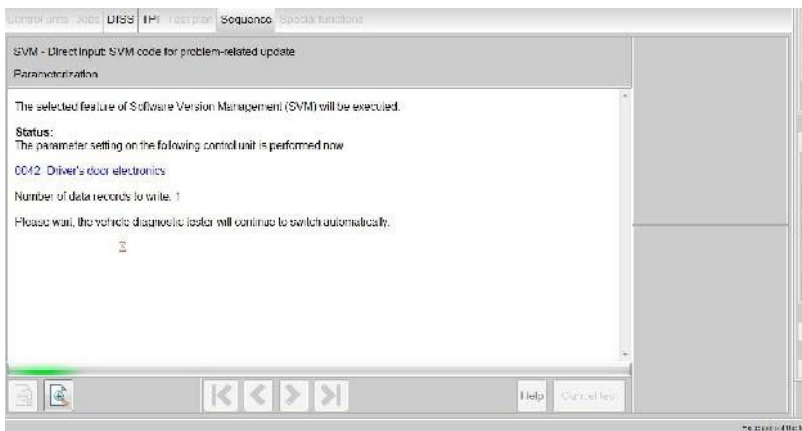

Figure 3
5) The required control modules will be automatically updated one by one, starting with 0042 – Door electronics Drivers side (Figure 3)